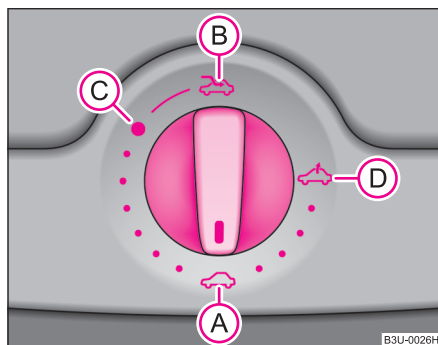

Fig. 31 Control dial for the power sliding/tilting roof
The sliding/tilting roof is operated by means of the control dial ⇒ fig. 31 and only functions when the ignition is switched on. The control dial has a number of fixed positions.
- Turn the switch to position (C) ⇒ fig. 31.
- Turn the switch to position  ⇒ page 53, fig. 31.
The sliding/tilting roof is equipped with an overload protection system. The sliding/tilting roof stops and moves back several centimetres when it cannot be closed because there is something in the way (e.g. ice). You can close the sliding/tilting roof completely without overload protection by pressing the switch to the  position ⇒ page 53, fig. 31 at the front or rear for as long as it takes for the sliding/tilting roof to shut completely ⇒ .
It is necessary after each emergency operation (using crank handle) to move the sliding/tilting roof into the basic position. Here you have to press the control dial forward to switch position (A) ⇒ page 53, fig. 31 for about 10 seconds. ■